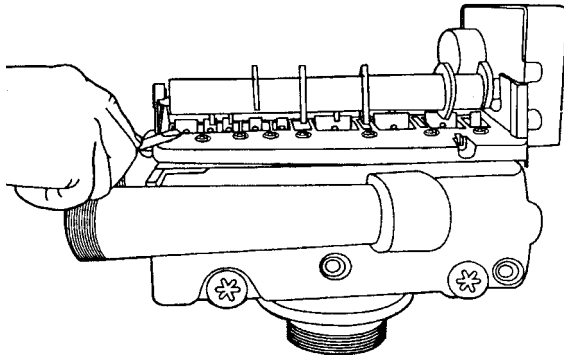

Figure 10
3. Remove the cover, and with a screwdriver, relieve tank pressure by pushing open valve No. 7 (rear flapper) on the control as shown (Figure 10).
- Relieve system pressure by opening valve No. 7 (at rear) with a screwdriver (Figure 10).